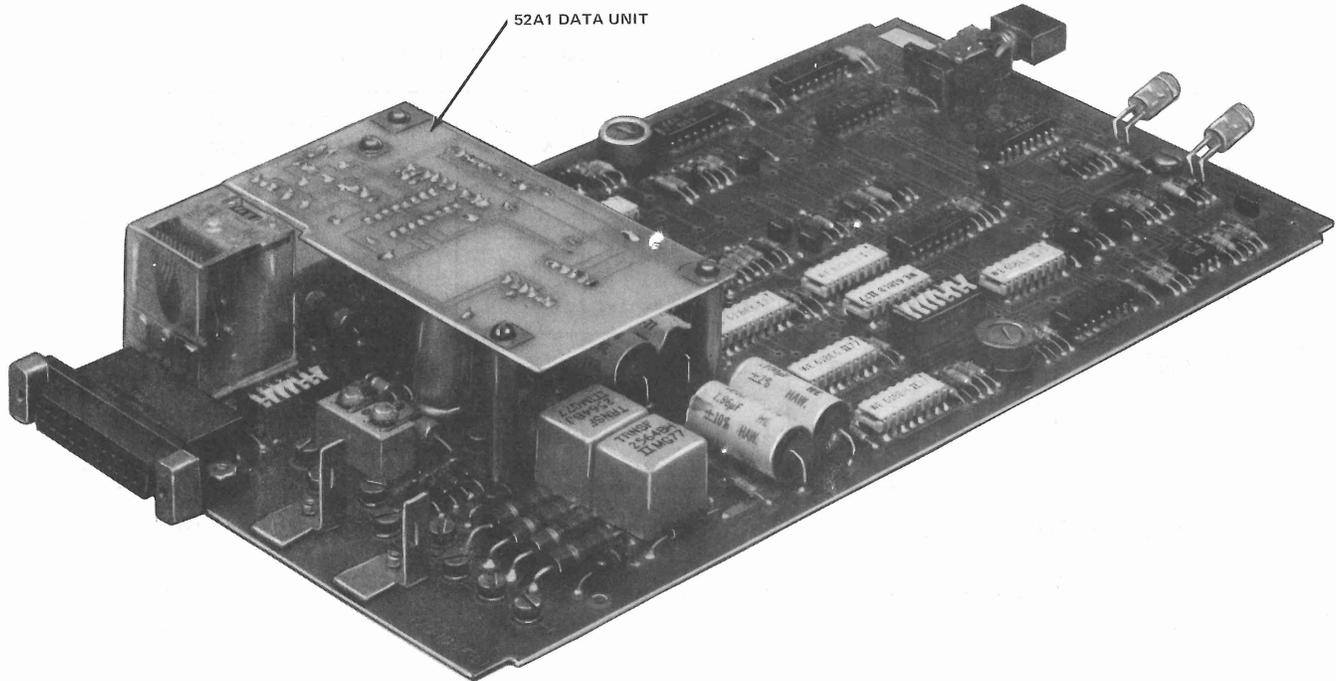

Fig. 10—52A1 Data Unit Mounted on DS 108F
2.11 The 52A1 data unit (Fig. 10) consists of a printed circuit board which is mounted directly to the circuit pack of DS 108F or G.